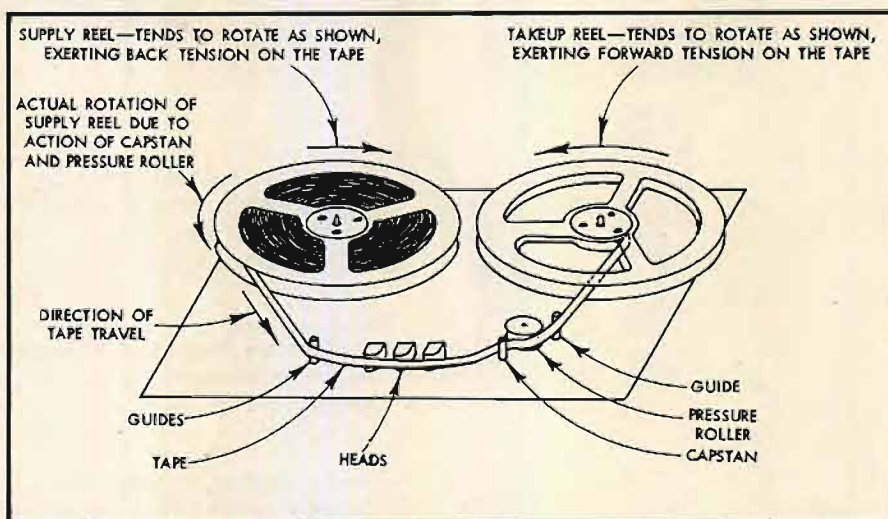

Fig. 2. Use of tape tension to achieve firm contact between the tape and the heads.
3. *Pressure of the Tape Against the Head.* For good treble response it is important that the tape and the heads maintain intimate contact. However, the pressure required for close contact results in friction as the tape moves past the heads. Thus the pressure should be just enough to maintain good contact and no more. The reels tend to pull the tape in opposite directions, so that the tape is held more or less taut against the heads, as illustrated in Fig. 2. This is the scheme generally employed in semi-professional and professional tape recorders to achieve close contact between the tape and the heads. Excessive pressure can result from excessive back tension exerted on the tape by the supply and takeup reels. There is usually provision for adjusting back tension.